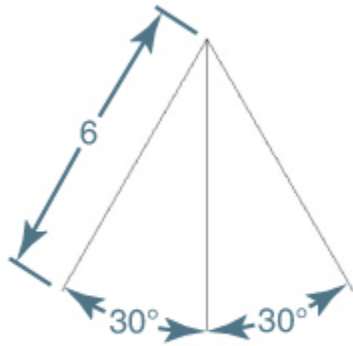

Figure 8-14
- 2 Draw the geometry shown in Figure 8-14.